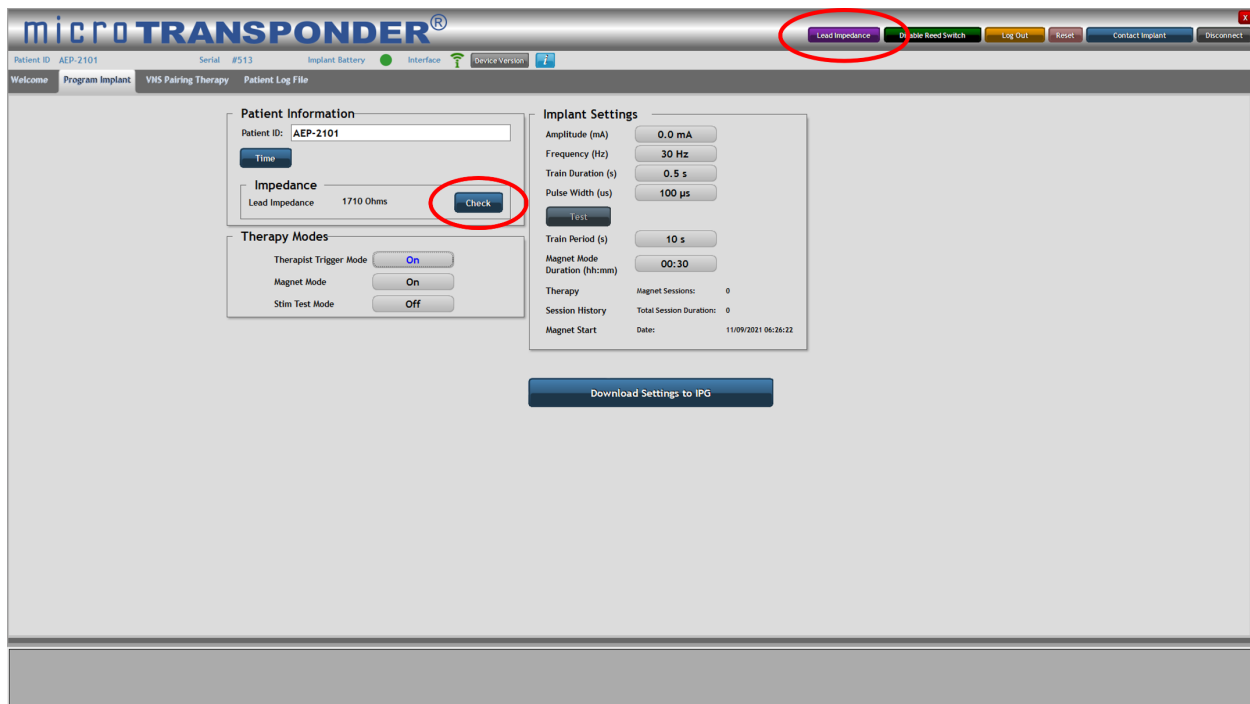

Figure 4.20: Lead Impedance Check
In the **Impedance** portion of the **Patient Information** area of the **Program Implant** menu, the Lead impedance can be checked by selecting the **Check** or **Lead Impedance** buttons (circled in Figure 4.20). Doing so delivers a small current through the Lead to calculate the Lead impedance. This measurement pulse contains minimal charge and is not expected to cause any discomfort, even in the most sensitive patient. The **Lead Impedance** button is available at all times once the user is logged in. See **Section 3: Using the Software (SAPS)**.
1. Select the **Check** or **Lead Impedance** button (circled in Figure 4.20).